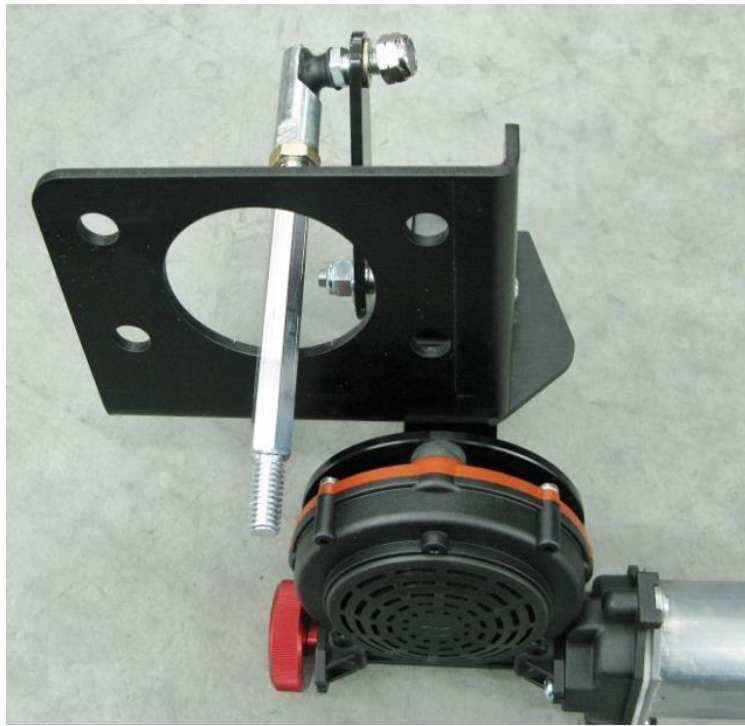

Figure 8 - Install Pitman Arm Linkage
8. Install the pitman arm linkage to the pitman arm by placing the threaded end of the linkage through the center hole of the mounting bracket. Remove the 5/16"-24 Nylock nut and washer on the ball joint side of the linkage. Install this end of the linkage into the pitman arm on the actuator and install the washer followed by the 5/16"-24 Nylock nut. Hold the hex nut on the linkage with a 7/16" wrench and tighten the Nylock Nut with a 1/2" socket. Torque the 5/16"-24 Nylock nut to 20 ft.-lbs. (Figure 8 on the next page).